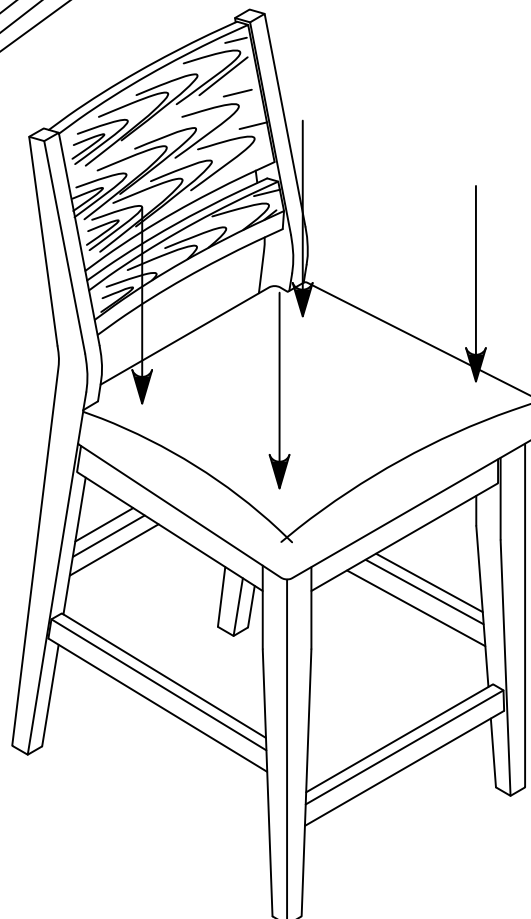

Fig.6
Step 6: Place the loosely assembled chair on a hard flat surface and apply gentle downward pressure on the seat. As shown on Fig.6. Once the chair is balanced and leveled, fully tighten all bolts.